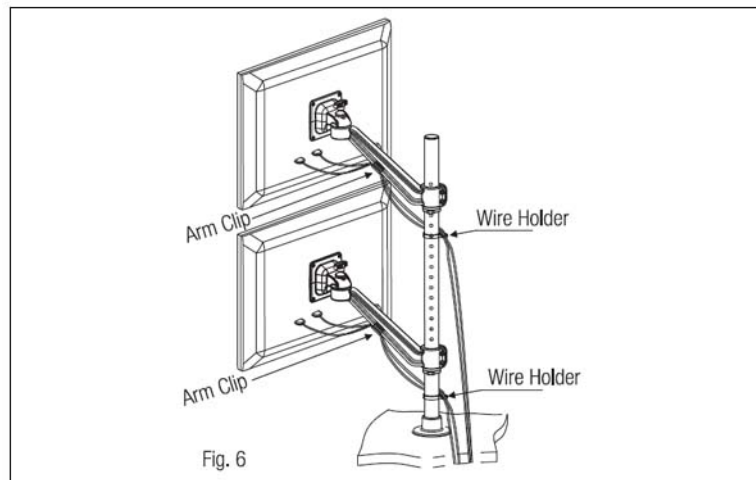

Fig. 6
- Insert the monitor cables into the arm clip and wire holder, then clip them to the diagonal arm and vertical pole respectively, as shown in Fig. 6.